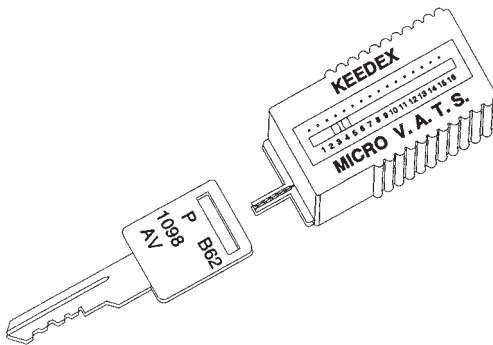

Figure 2.34 A VATS/PASSKey decoder lets locksmiths quickly determine the electrical resistance values of VATS/PASSKey key blanks. (Keedex Mfg.)
- VATS/PASSKey decoder or key analyzer (Fig. 2.34)